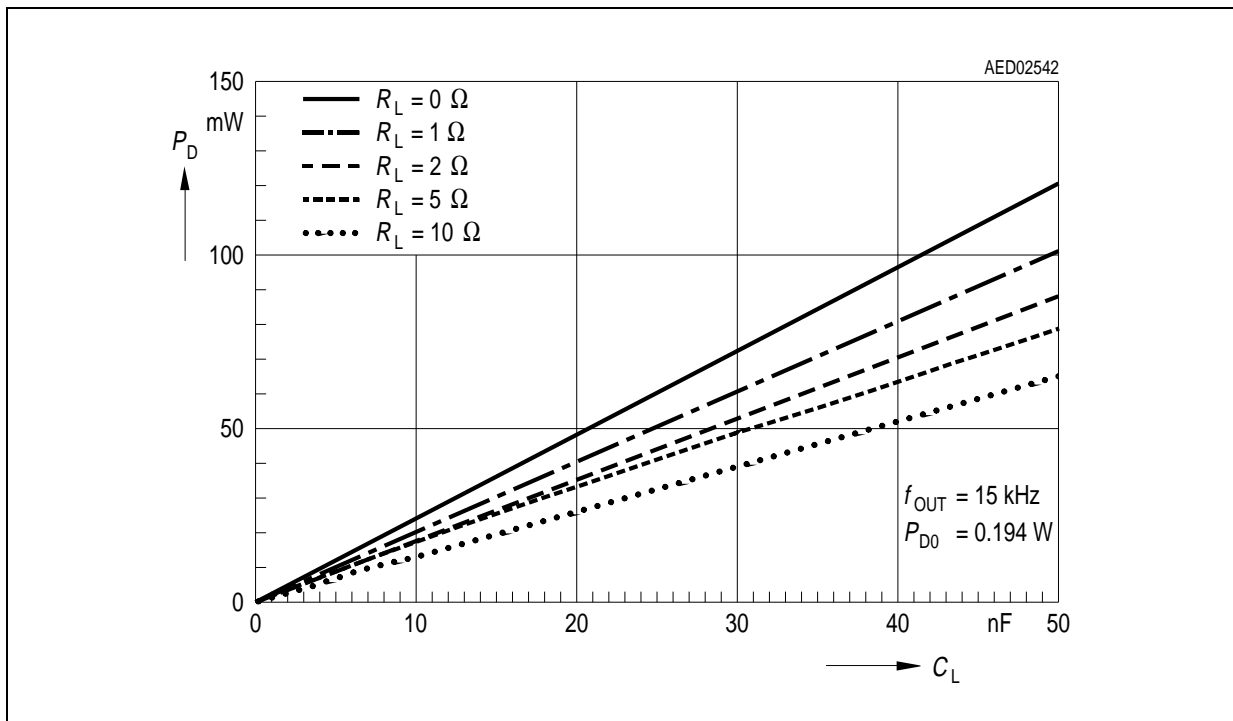
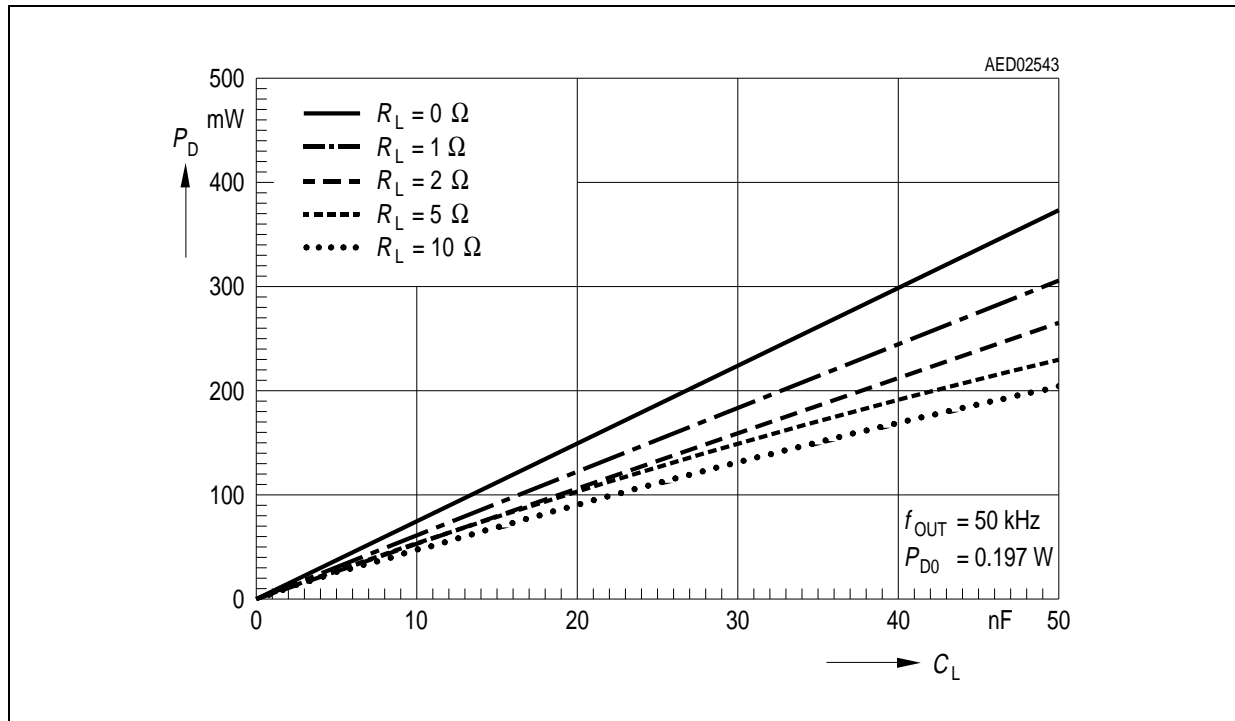
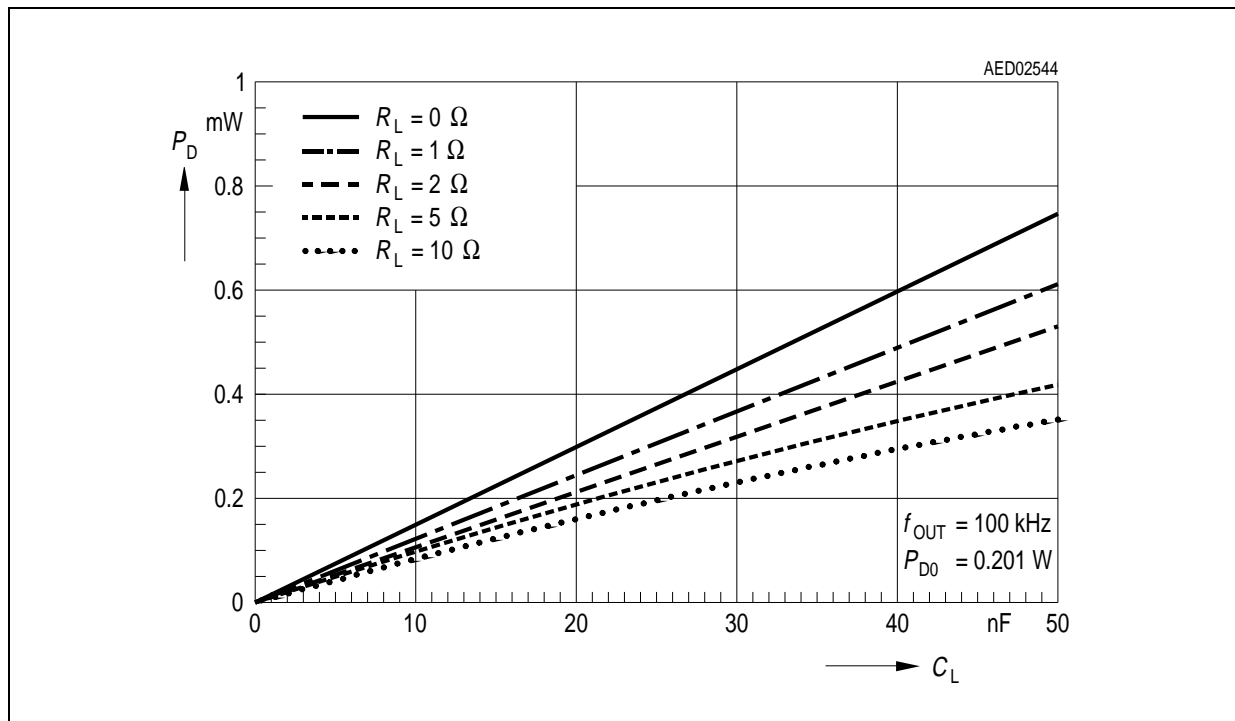
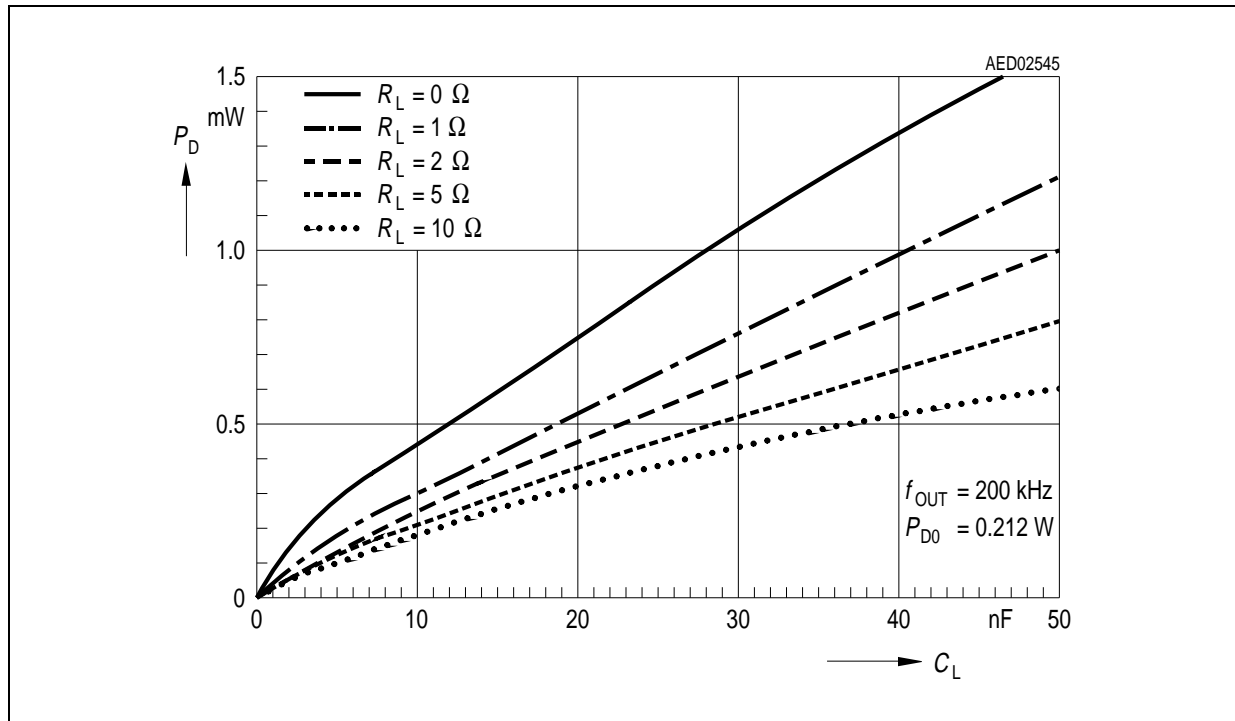

Figure 14 Power Dissipation of Single Gate Driver at $f_{OUT} = 15\ kHz$
Figure 15 Power Dissipation of Single Gate Driver at $f_{OUT} = 50$ kHz
Figure 16 Power Dissipation of Single Gate Driver at $f_{OUT} = 100$ kHz
Figure 17 Power Dissipation of Single Gate Driver at $f_{OUT} = 200 \text{ kHz}$
3) The gate driver's output performance is characterized in **Figure 14**, **Figure 15**, **Figure 16** and **Figure 17**.